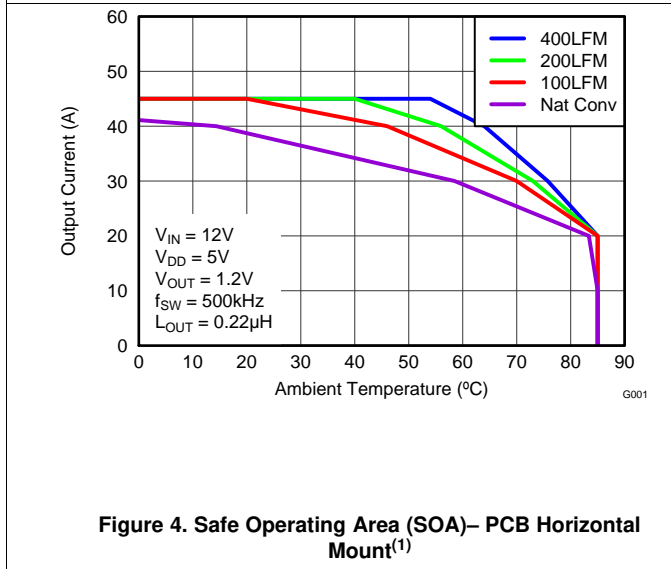
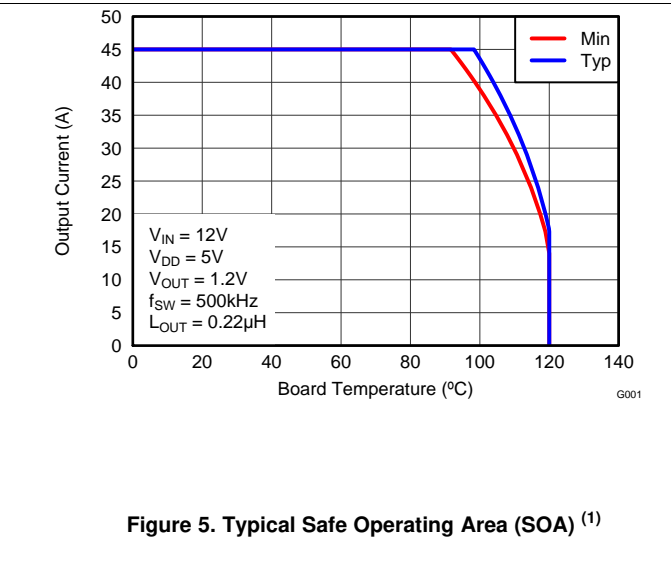

Figure 4. Safe Operating Area (SOA)– PCB Horizontal Mount(1)
Figure 5. Typical Safe Operating Area (SOA) (1)
The SOA curves in the CSD95373AQ5M data sheet give engineers guidance on the temperature boundaries within an operating system by incorporating the thermal resistance and system power loss. Figure 4 and Figure 5 outline the temperature and airflow conditions required for a given load current. The area under the curve dictates the safe operating area. All the curves are based on measurements made on a PCB design with dimensions of 4" (W) × 3.5" (L) × 0.062" (T) and 6 copper layers of 1 oz. copper thickness.